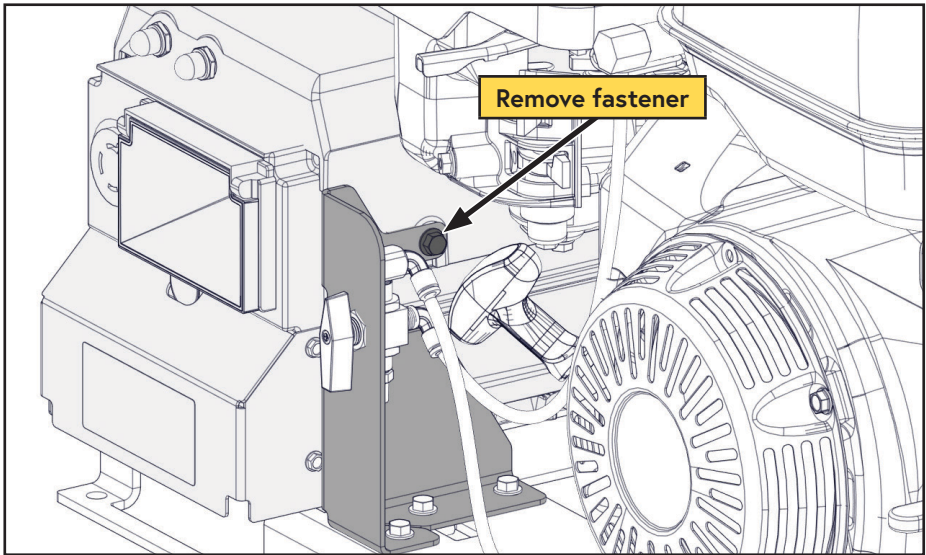

Figure 82 — Remove throttle switch mount bracket fastener
- Remove the upper fastener from the throttle switch mounting bracket (Figure 82).